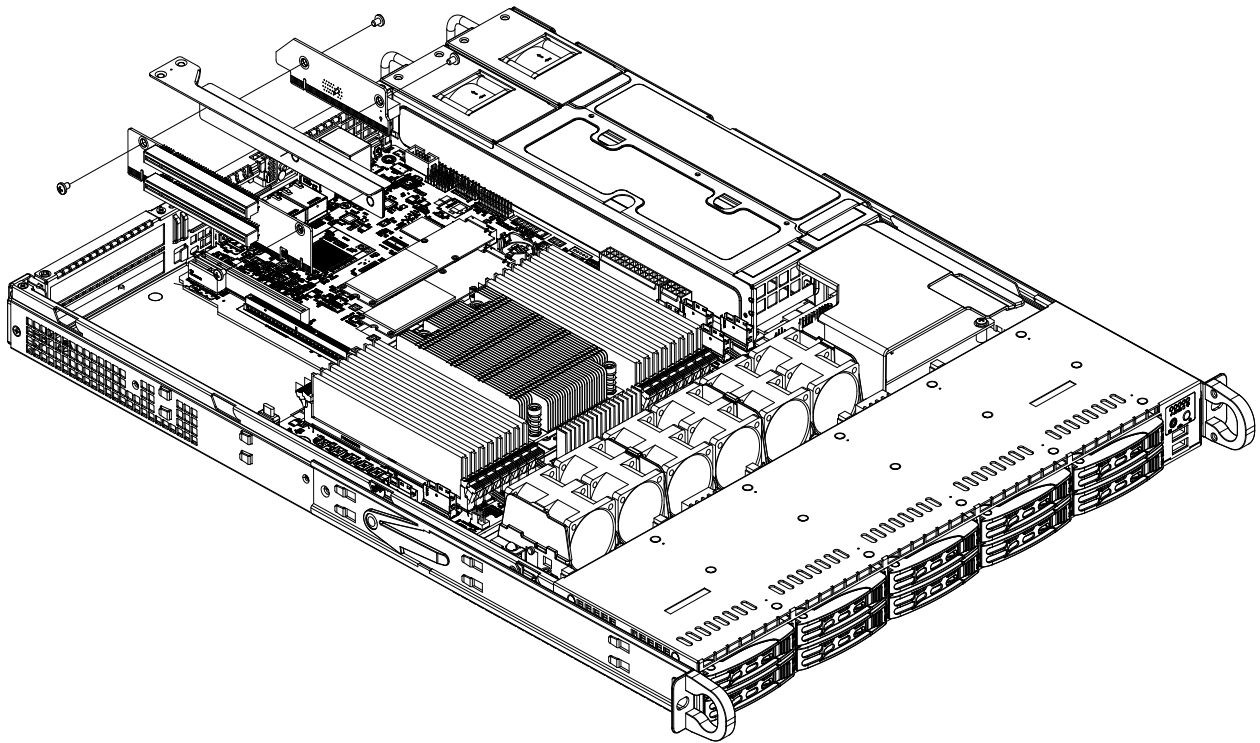

Figure 3-13. Installing Riser Card to Bracket
3. Install the riser card on the bracket with the two screws provided, see Figure 3-13.